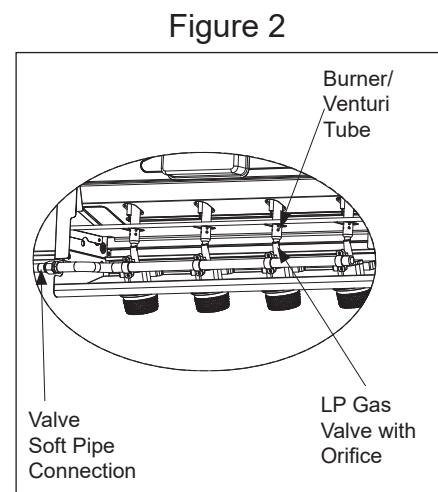

Figure 2
4. Please refer to diagram for proper installation (Figure 2).
5. Spoon several drops of solution, or use a squirt bottle, at all "X" locations (Figures 2 and 4).